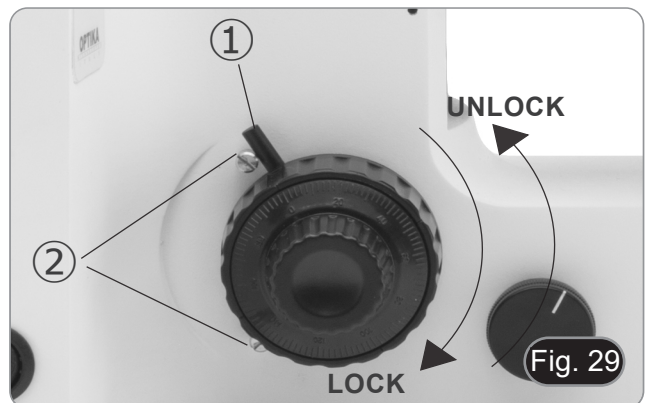

Fig. 29
- After focussing the specimen, pull the lever ① toward the front of the microscope and lock it. (Fig. 29)
- Two stoppers ② are inserted on the frame. DO NOT REMOVE THE TWO STOPPERS.**